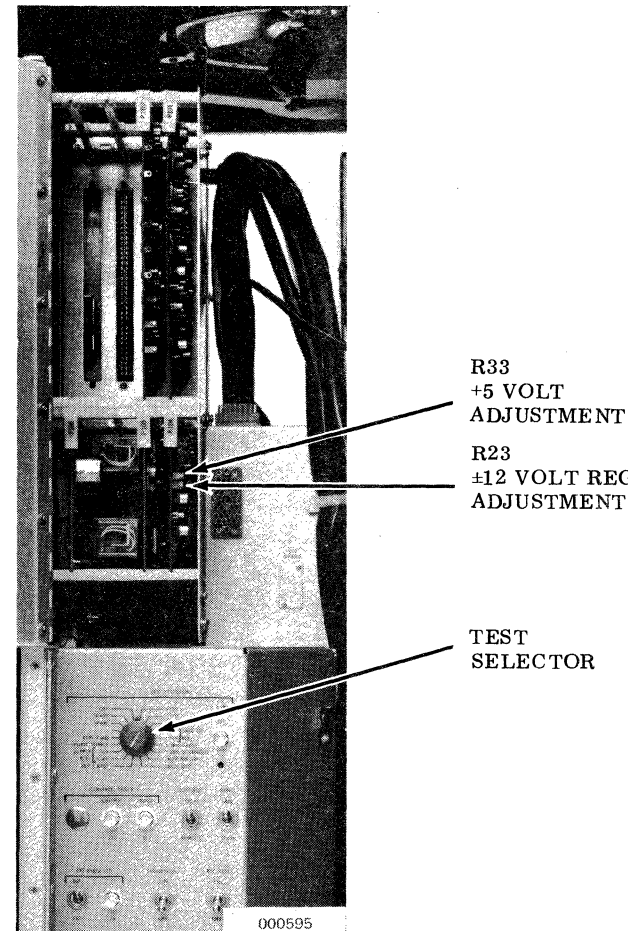

Figure 9-1. Voltage Regulator Adjustment Points
- Adjust R23 on the ±12V regulator pwa P104 (see Figure 9-1) for -12 (±0.2)V. (If the regulator will not adjust to within tolerance, use normal troubleshooting techniques to solve the problem).
- Adjust R33 on the ±12V regulator pwa (see Figure 9-1) to read +5(±0.25)V.